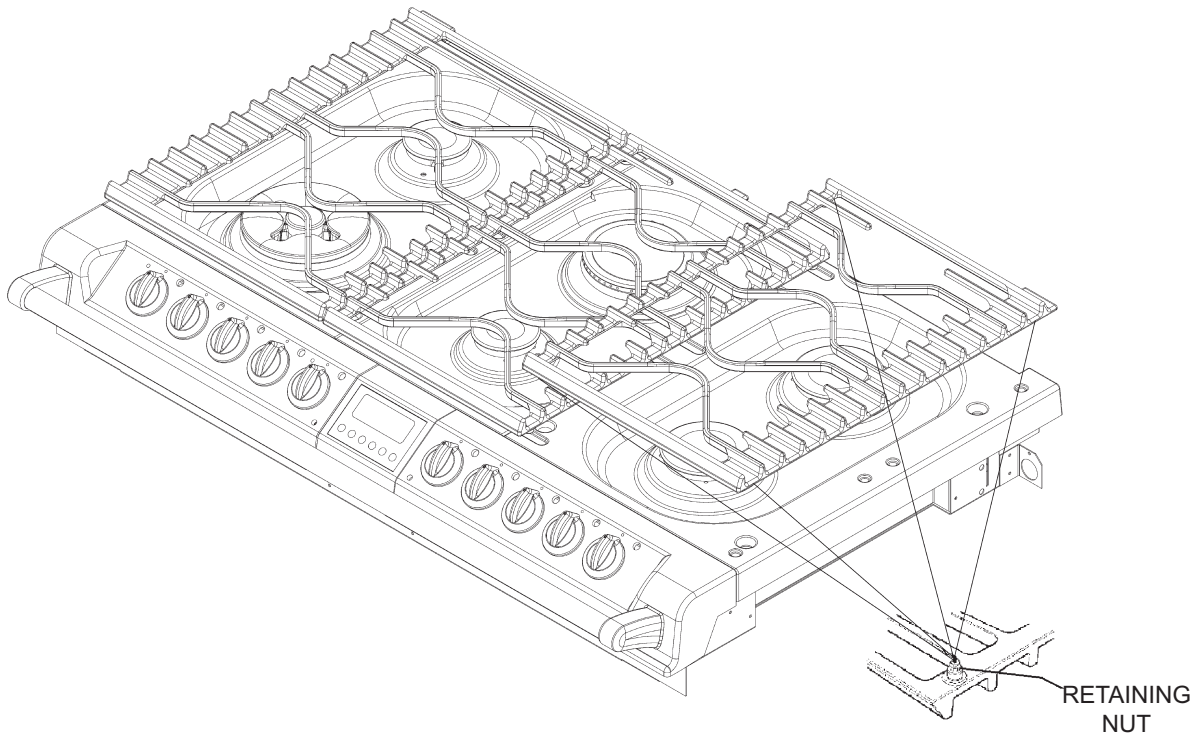

Fig. 9C
1. Loosen retaining nut using 8mm spanner (See Fig. 9C).